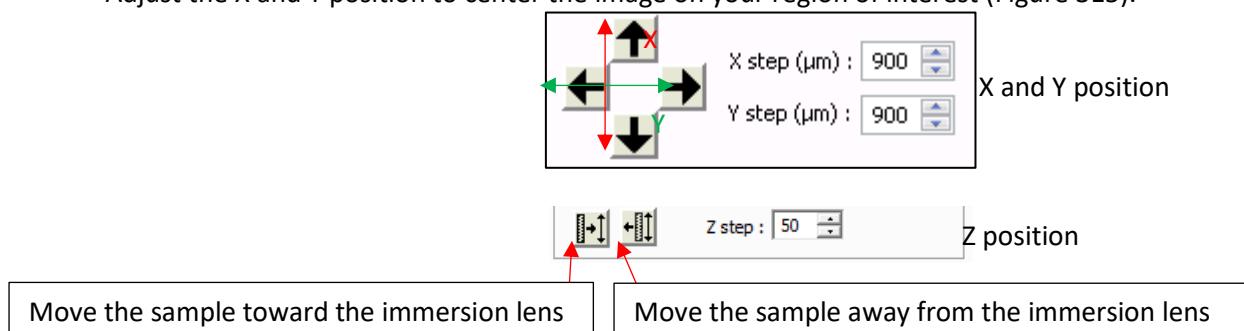

Figure 315: NAVIGATOR window: navigation arrows to move the sample along the X, Y and Z axis.
- Adjust the X and Y position to center the image on your region of interest (Figure 315).